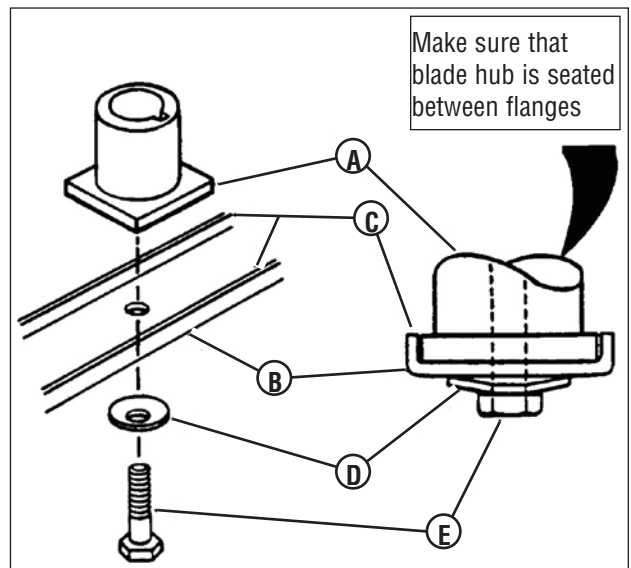

Figure 19: Removing the mower blade
1. Inspect the blade (Figure 19) frequently for signs of excessive wear or damage:
- (A) New blade
- (B) Wear limit (cracks or notches begin to appear on tip)
- (C) Dangerous condition! Do not use on the mower! Replace with a new blade.
3. Remove the blade (B, Figure 19).
- Reinstall blade (**B**, **Figure 19**). Note the correct assembly order: